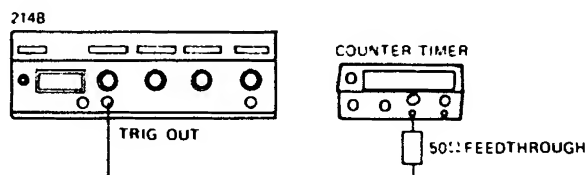

Figure 4-1.
1. Connect equipment as shown in Figure 4-1 and set 214B controls as follows: